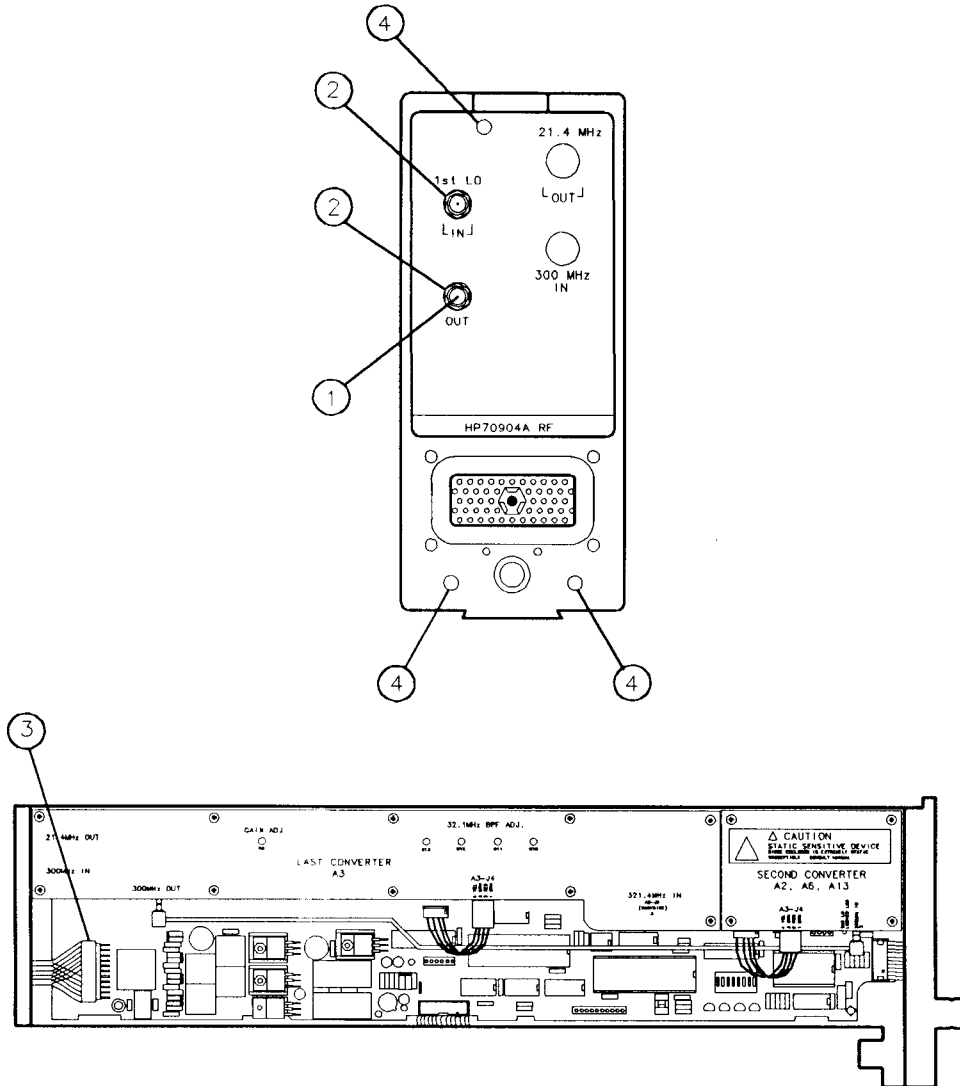

Figure 6-16. Rear Panel Replacement
2. Remove the 1st LO OUT 50 Ω termination from rear-panel J3 (1). See Figure 6-16.
3. Remove the SMA lock-nuts from rear-panel J2 1st LO IN and J3 1st LO OUT (2).